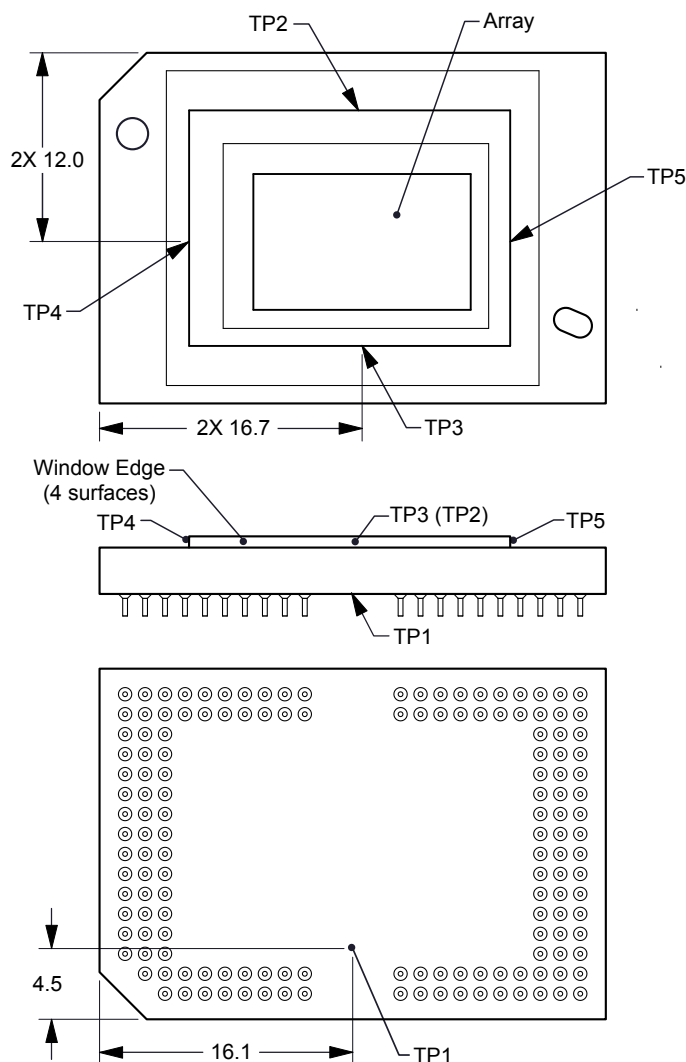

图 6-1. DMD Thermal Test Points
Micromirror array temperature cannot be measured directly, therefore it must be computed analytically from measurement points on the outside of the package, the package thermal resistance, the electrical power, and the illumination heat load. The following equations show the relationship between array temperature and the reference ceramic temperature, thermal test TP1 图 6-1 shown above:
- T_{CERAMIC} = Measured ceramic temperature (°C), TP1 图 6-1
- $R_{\text{ARRAY-TO-CERAMIC}}$ = Thermal resistance of package specified in 节 5.5 from array to ceramic TP1 图 6-1 ($^{\circ}\text{C/W}$).
- Q_{ARRAY} = Total DMD Power (electrical + absorbed) on the array (W)
- $Q_{\text{ELECTRICAL}}$ = Nominal electrical power (W)
- Q_{INCIDENT} = Incident illumination optical power (W)
- $Q_{\text{ILLUMINATION}}$ = (DMD average thermal absorptivity $\times Q_{\text{INCIDENT}}$) (W)